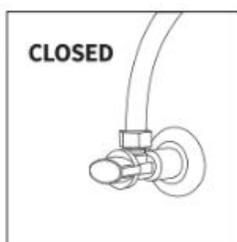

Figure 4.1
1. Make sure that the cold water supply is turned off. See Figure 4.1